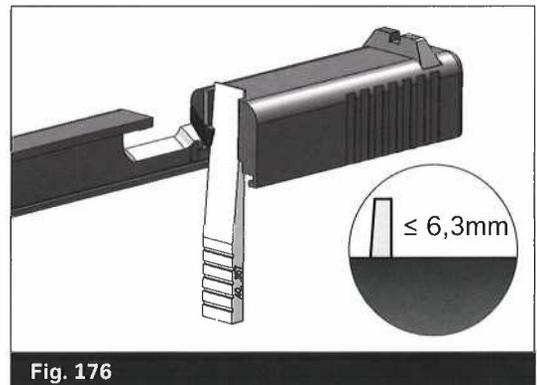

Fig. 176
**“GO”** The gauge passes behind the extractor claw and should project from the top of the slide (1-3mm). (Fig. 176)